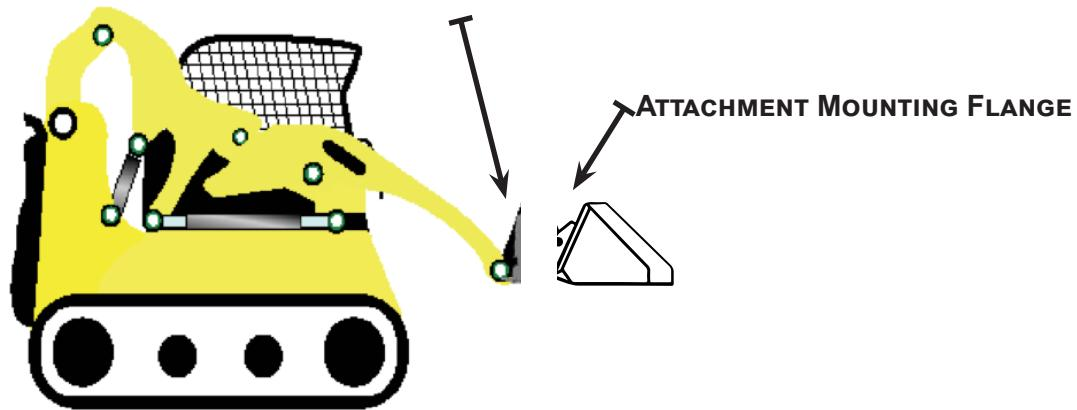

FIGURE 4.2A - SKID STEER MOUNTING PLATE TO ATTACHMENT MOUNTING FLANGE
2. Drive the skid steer to the attachment plate and tilt the skid steer coupler forward and hook the top edge of the skid steer quick attach mechanism under the lip of the bucket's attachment plate. See *figure 4.2a* below.
3. Slowly raise and tilt back the skid steer mounting plate, moving upward until the bucket's attachment plate is flat against the skid steer quick attach mechanism. See *figure 4.2a* below.